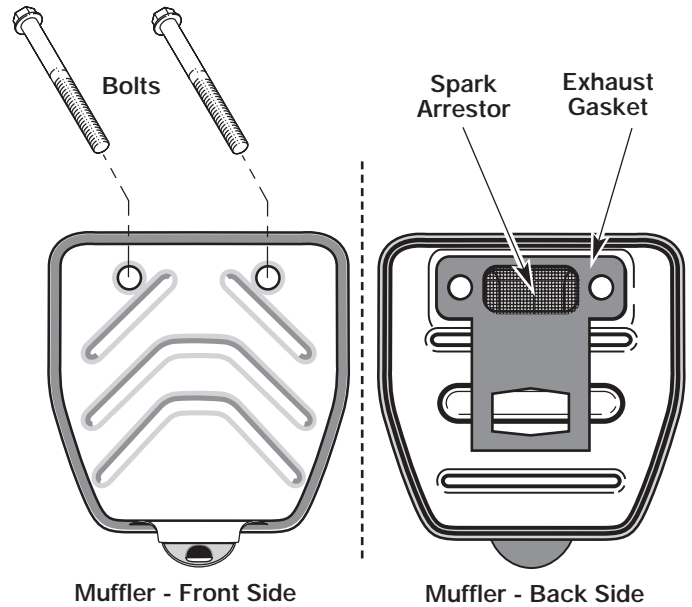

Fig. 31
2. Locate the muffler front and the two (2) bolts securing it to the engine (Fig. 31). Remove the two (2) bolts using a flatblade screwdriver or 5/16-inch socket or nut driver. Pull the muffler off of the engine.
3. Turn the muffler over to the back side and locate the exhaust gasket. Remove the muffler gasket from the muffler (Fig. 31).
7. Place the exhaust gasket against the muffler's back side. Align the exhaust gasket bolt holes with the bolt holes in the muffler. While holding the exhaust gasket in place, insert bolts into muffler's front side (Fig. 31).